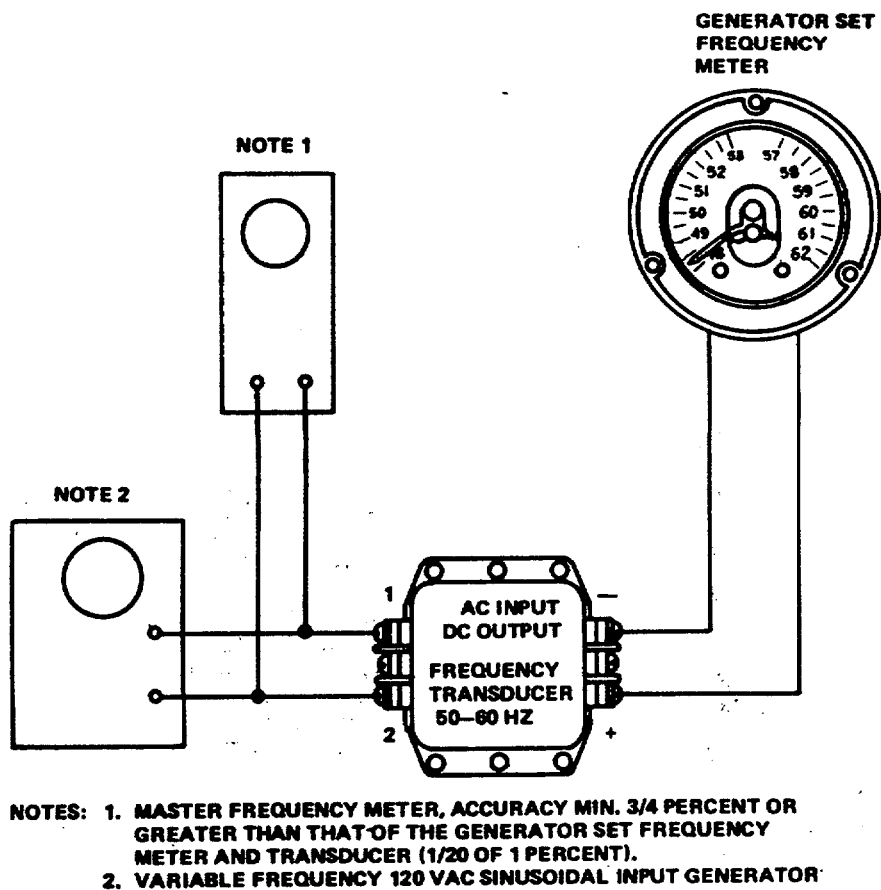

Figure 15-6. Transducer A103, Test Setup
- (a) Connect a test setup as shown in figure 15-6.